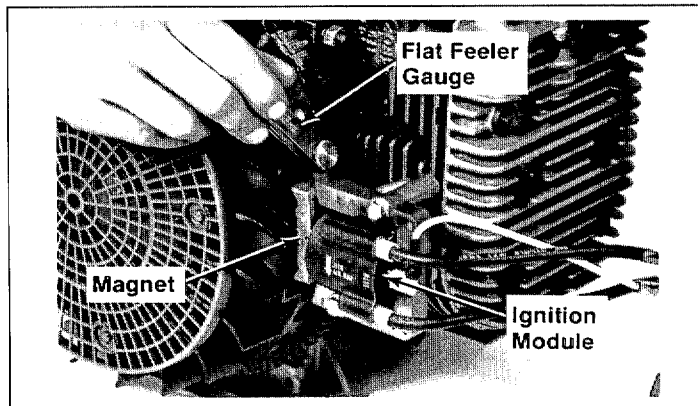

Figure 27. Setting Magnet-To-Module Air Gap
2. Insert a .014" flat feeler gauge (or shim stock) between the magnet and module. Refer to Figure 27.